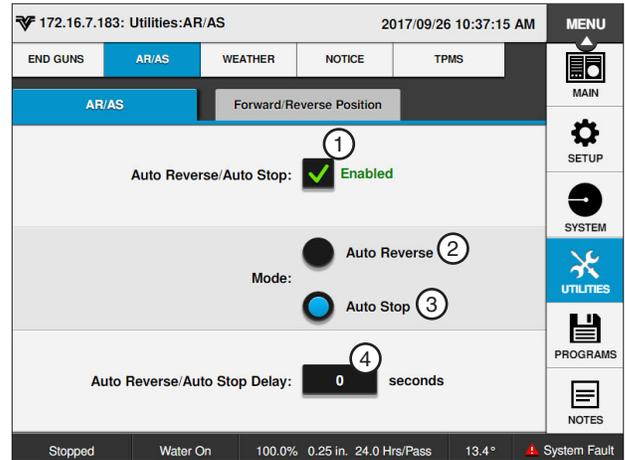

Figure 69-1 1. AR/AS Enabled 3. Auto Stop
1. Push **Menu**, **Utilities** and **AR/AS** to display the AR/AS screen. Refer to Figure 69-1.